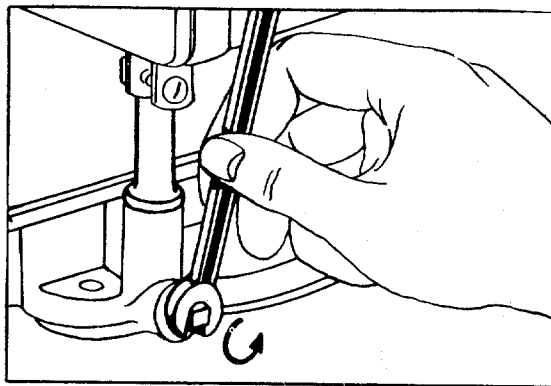

FIGURE 17. OIL DRAIN
See figures 17 and 19. Turn the ignition key to the START position. When the engine is running, let the key return to the ON position.
After the first five hours of operating a new engine, drain the oil (See figure 17.) from the crankcase while engine is still hot and refill
Step 1. With the machine on level ground, place a suitable metal container under the oil drain plug, then remove the drain plug. See figure 17.